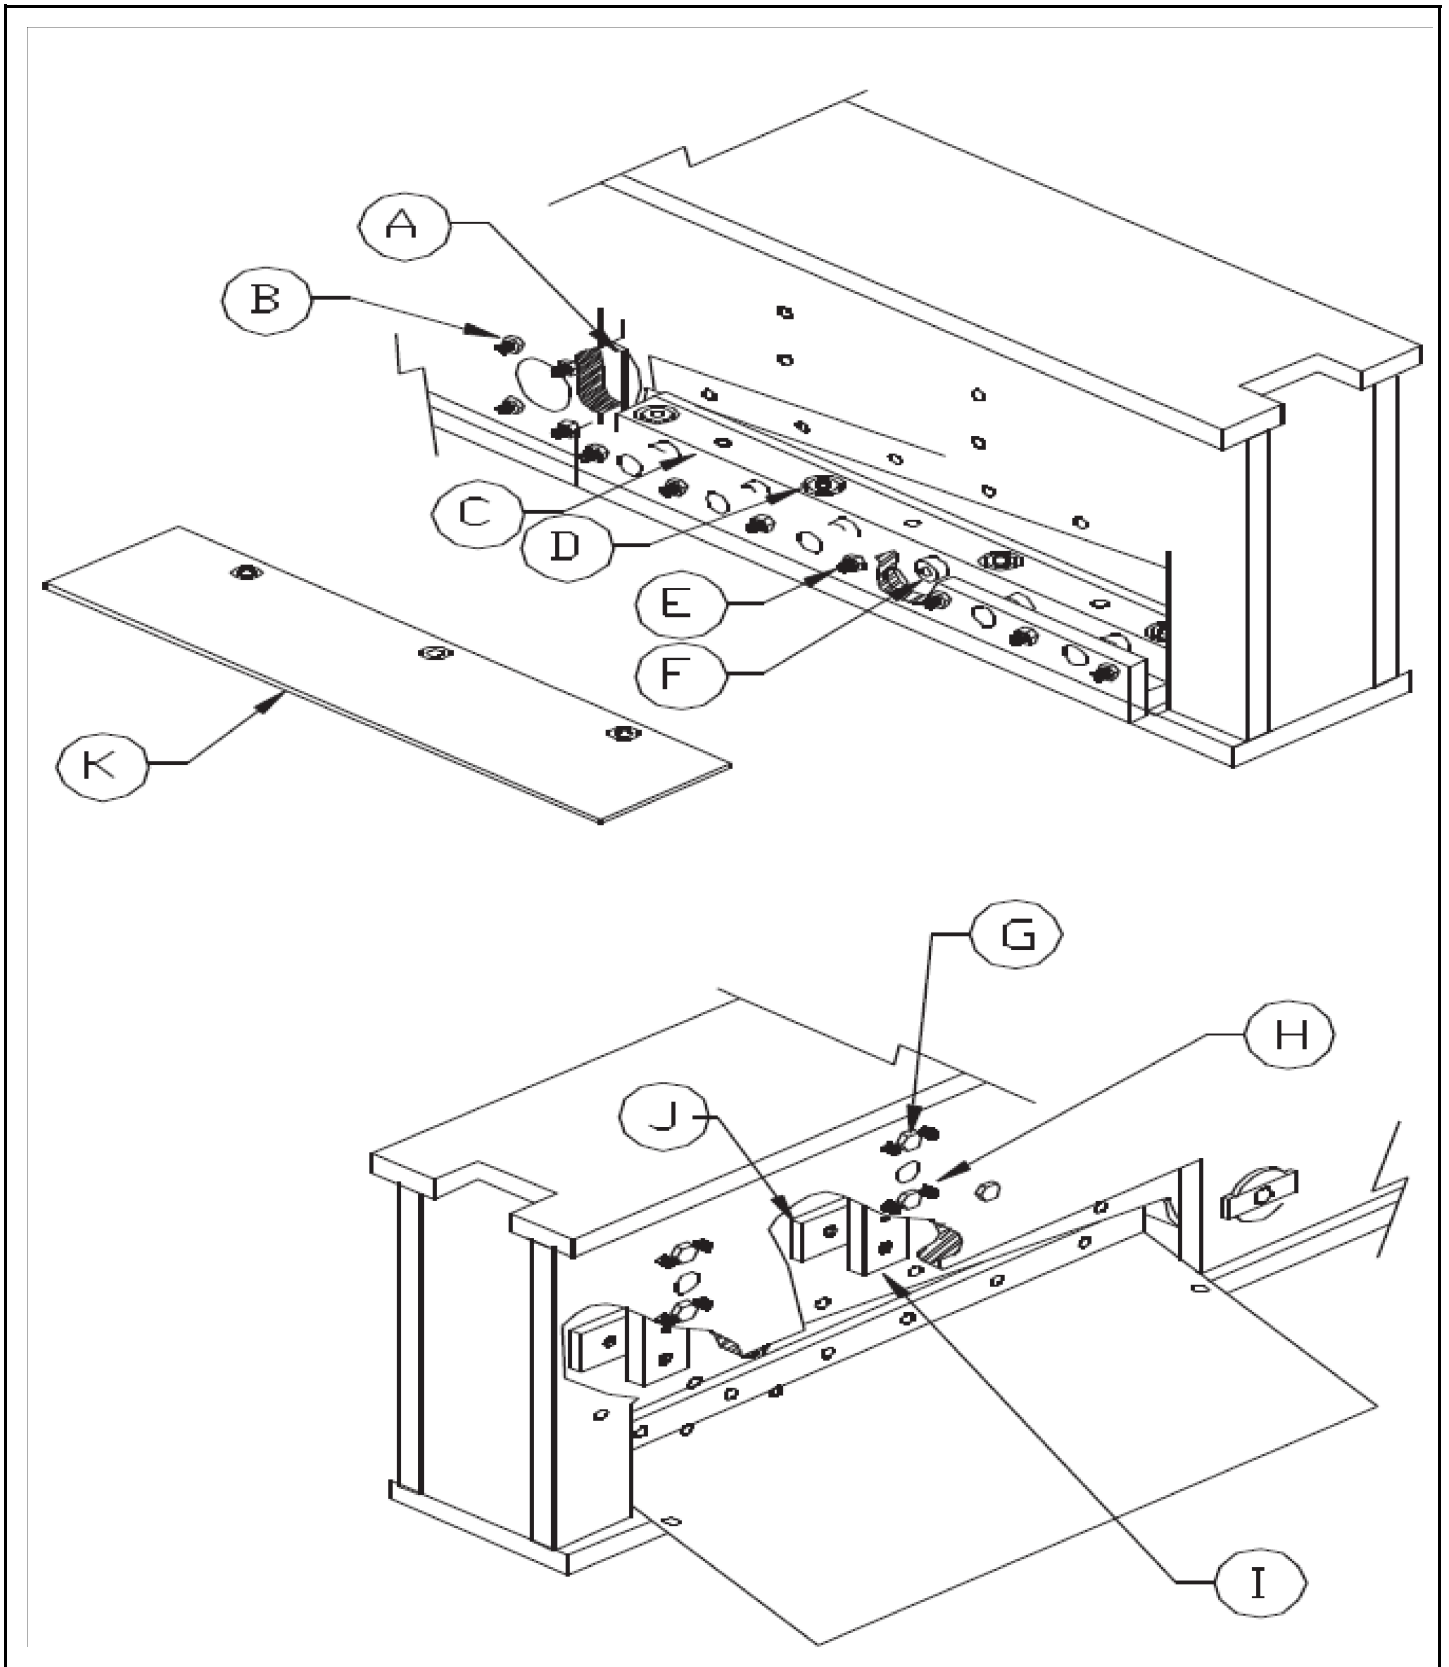

FIGURE 11
**REFER TO FIGURE 11 ON THE FOLLOWING PAGE.**
**Adjustment on the shear arm is maintained on the front (operator's) side by the pressure plate (A) and on the rear by the rub blocks (I & J). The cylinder cover shroud must be removed to gain visual access.**
**SEE FIGURE 11 ON THE FOLLOWING PAGE.**
- 1. Before making these adjustments, loosen the lower blade holder (C) and back the lower blade away from the upper blade. After making these adjustments, reset the blades following the instructions in SECTION 6.2B.**
- 2. Loosen the six adjusting screws (H) for each of the rub blocks (I) and remove the rub blocks by taking out the three mounting screws (G). (If excessive concave wear is noted on the rub blocks, they can be turned and the back surface used.) Set the pressure plate adjustment before resetting the rub blocks.**
- 3. For the pressure plate adjustment, loosen the lock nuts (B) on the four adjusting screws that engage the pressure plate (A).**
- 5. Replace the rub blocks (I). With the shear arm in the down position, tighten the bottom adjusting screws (H) until the rub blocks come in contact with the shear arm rub blocks (J). Raise the arm about half way and adjust the middle two adjusting screws (H) until the rub blocks make contact. Then, raise the arm completely and adjust the top two screws. (Once again, excessive tightening will cause unnecessary wear.) Check to be sure that the rub blocks (I) are in contact with the shear arm rub blocks (J) throughout the full stroke.**
- 6. Tighten the lock nuts (A) on the pressure plate adjusting screws.**
SEE FIGURE 11 ON THE PRECEDING PAGE.